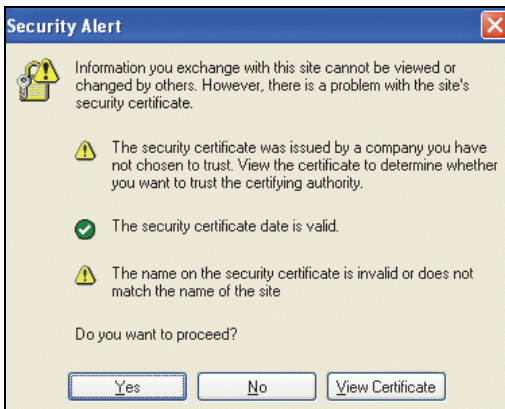

Figure 15. Accepting the SSL Certificate
- 2 In SSL mode, accept the certificate by clicking **Yes** (see Figure 15).